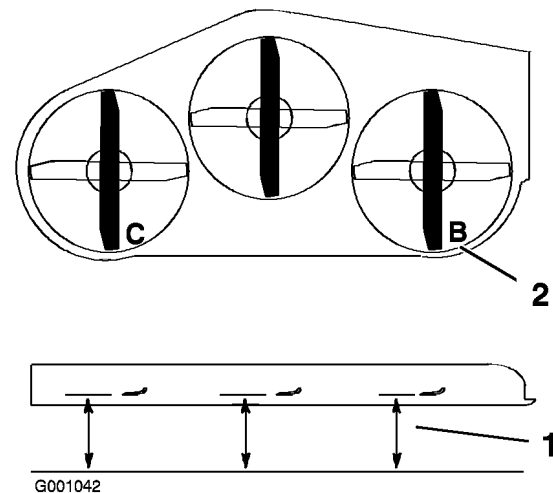

Figure 67
1. Position the **right** blade front-to-rear (Figure 67).
2. Measure the right blade at the **B** location, from a level surface to the cutting edge of the blade tip (Figure 67).
4. Position the left blade front-to-rear (Figure 67).
5. Measure the left blade at the **C** location (Figure 67), from a level surface to the cutting edge of the blade tip .